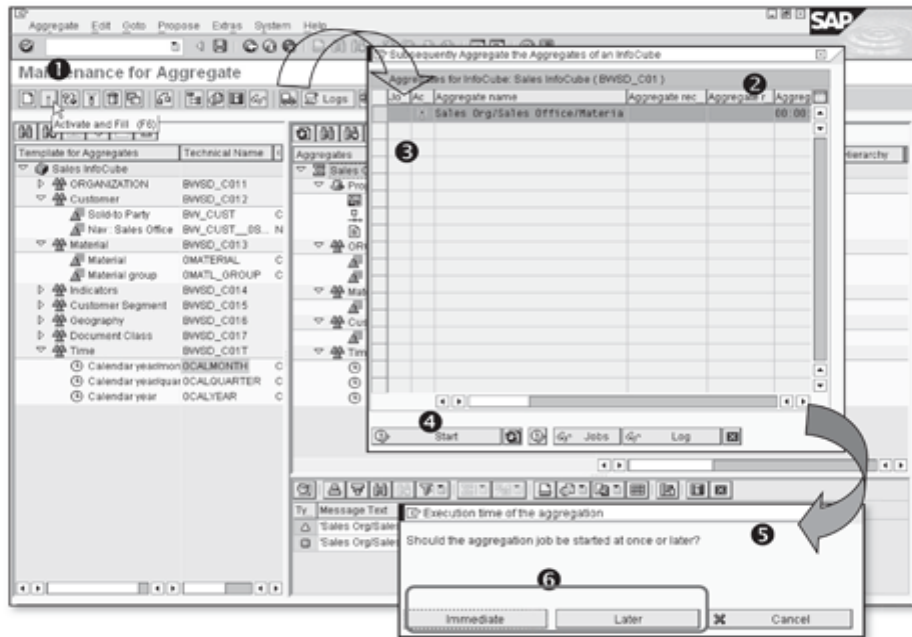
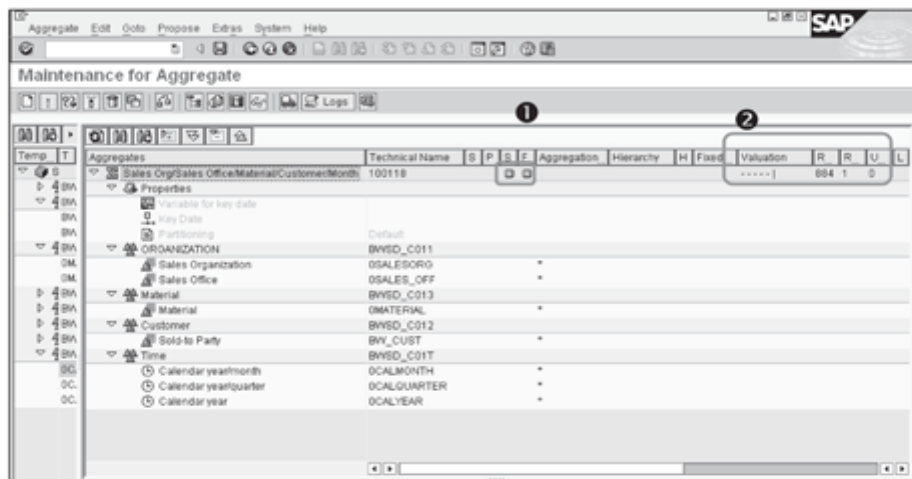

Figure 14.25 Activate an Aggregate
Figure 14.26 Valuation of Aggregates
Activation of the aggregate fills the aggregate with data from the InfoCube. To do this, click the aggregate on the right panel, and then click on the Activate and Fill icon on the dynamic menu bar (1 of Figure 14.25). A pop-up box appears (2); place the cursor on the row with the text definition of the aggregate (3), and click the Start icon (4). Another pop-up box appears, which gives you the options for when to time the execution of filling the aggregate (5). The aggregation job can be started immediately by clicking the Immediate button, or it can be started later by clicking the Later button (6). In our example, we choose Immediate. After the job is complete, the status bar and log section indicate this with a message. An aggregate (with a technical name allocated by the system) is created for InfoCube BWSD_C01; as you can see, the resulting screen shows green boxes (1 of Figure 14.26) as well as details about the valuation of the aggregate.
The system evaluates aggregates using plus and minus signs (② Figure 14.26); five plus signs (+++++) indicates the highest valuation, whereas five minus signs (-----) indicates the lowest valuation. Valuation is a good indicator for whether an aggregate is likely to serve its purpose in performance improvement, but it should not be the only factor affecting whether you keep or delete an aggregate. (For more information on this, we recommend the book *SAP BW Performance Tuning* [SAP PRESS, 2007].) One of the parameters for this valuation is the level of summarization, which can be checked in the Record Summarizes column. The value here indicates how many BasicCube records (on average) correspond to the number of records in that aggregate. For a good aggregate, this value should be 10 or more.